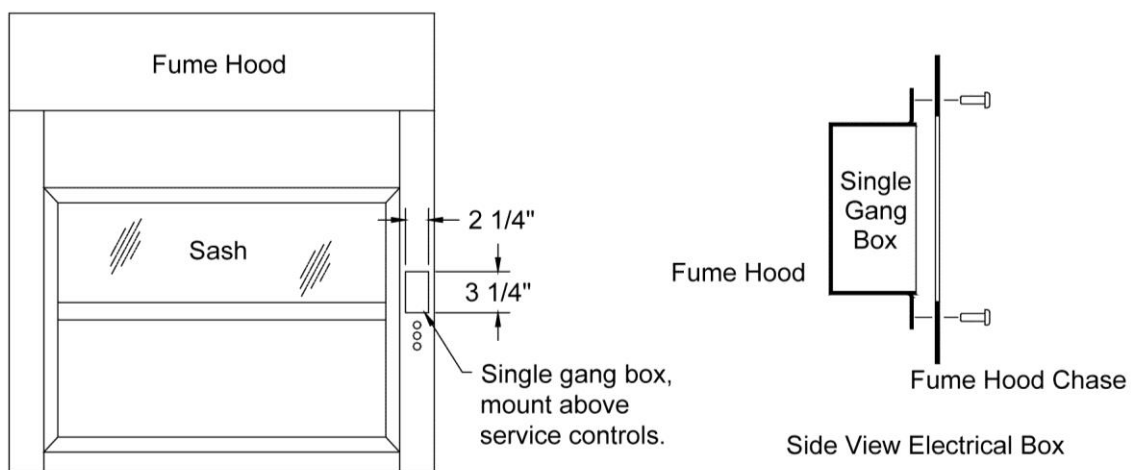

Figure 1: Mounting Location and Electrical Box
1. Select the mounting location for the Controller or Monitor. The Controller or Monitor is typically mounted above the service controls (Figure 1).
2. Cut a hole at this location, sized to mount to a standard single gang electrical box, 2¼" (57.2mm) wide by 3¼" (82.6mm) long (Figure 1).
3. Mount a single gang electrical box in the cutout location (Figures 1 and 2).
2. Cut a hole at this location, 2¼" (57.2mm) wide by 3¼" (82.6mm) long (Figure 1).